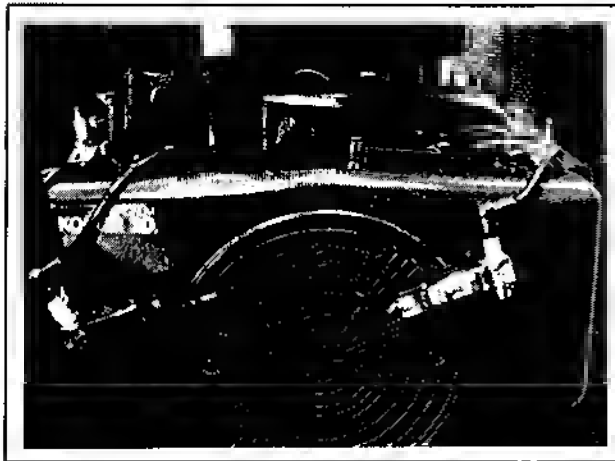

Figure 8-2. Ignition System Tester.
3. Check Ignition module using test plugs (refer to the "Special Tools" section and Figure 8-2). a. Remove the high-tension leads from the engine spark plugs, and connect them to the test plugs. NOTE: To maintain engine speeds normally obtained during cranking, do not remove the engine spark plugs. b. Make sure the engine Ignition switch (kill switch) and/or key switch are in the "run" position. c. Crank the engine and observe the test plugs. Visible and audible sparks should be produced.	If visible and audible sparks ARE produced, the ignition module is OK. If visible and audible sparks ARE NOT produced: a. Make sure engine Ignition switch and/or key switch are in the "run" position. b. Check wires and terminals of ignition module and other components for accidental grounding and/or damaged insulation. c. If wires and terminals are OK, the Ignition module is probably faulty and should be replaced. Test module further using an ohmmeter (Test 4).